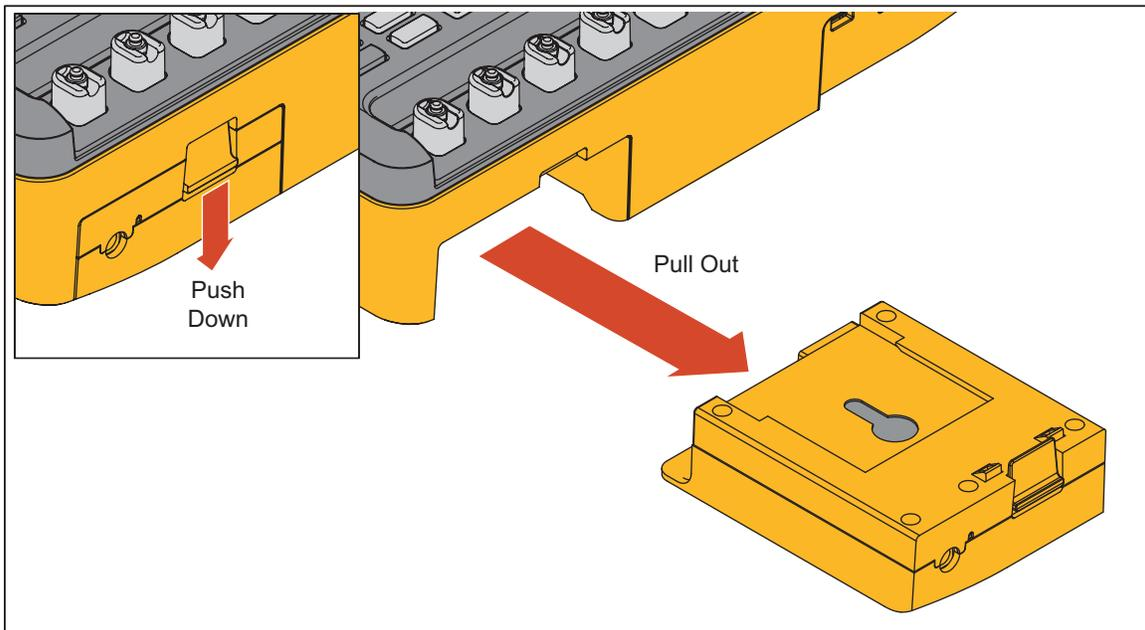

Figure 61. Battery Removal
1. Push down on the battery pack latch as shown in Figure 61.